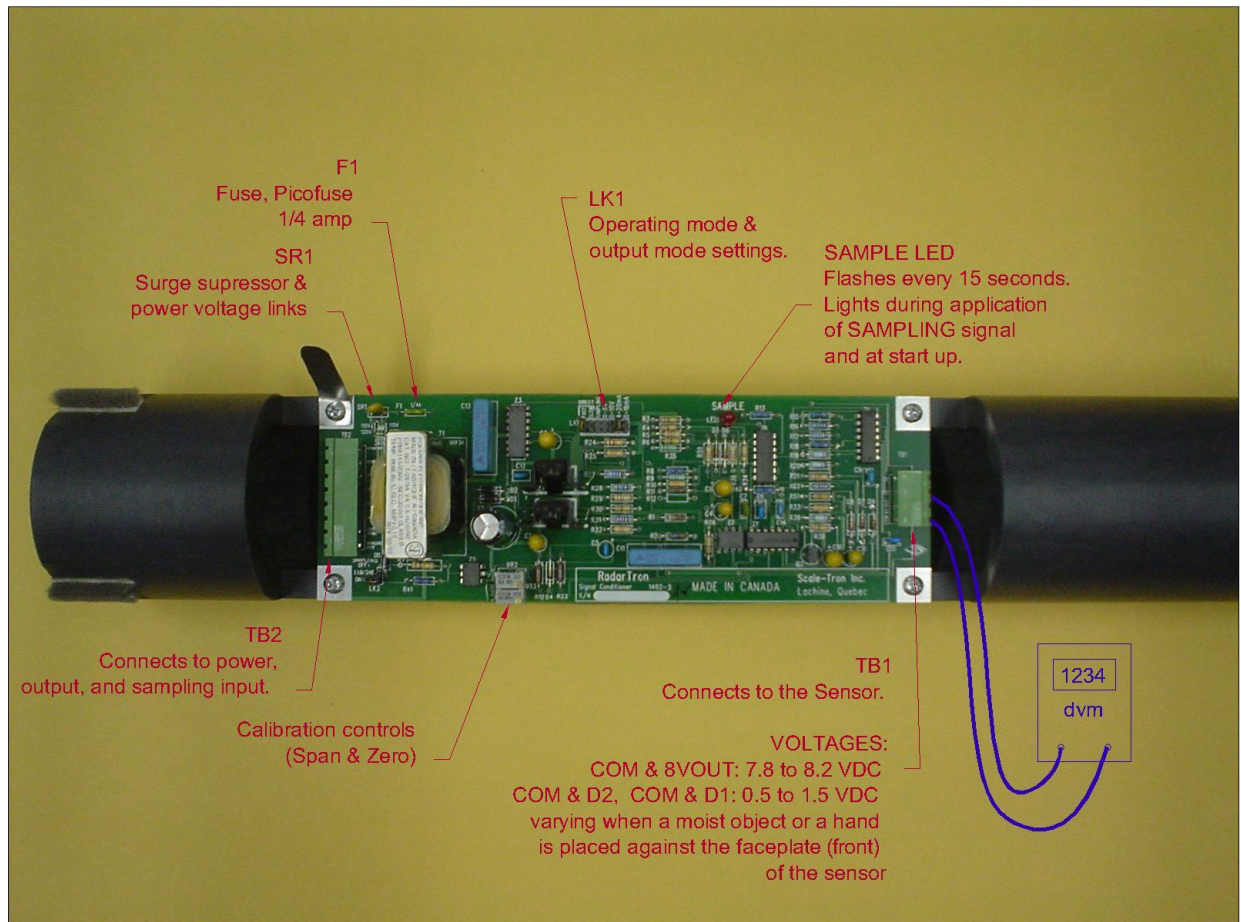

Figure 3, CALIBRATION GRAPH
Before making any corrections, you must collect and compare readings at both low and high moisture. Ideally, collect a set of readings varying from 2% moisture to 8 or 10%. Your calibration will only be correct within the range of moisture over which you take readings. We have made the adjustment procedure as simple as possible by providing both a graph and computer analysis of your comparative readings, together with recommended adjustment procedure. When you have obtained a set of 10 good comparison measurements, plot them on the graph provided (see Figures 3 and 4) or insert the calibration disk into your computer (IBM compatible) and follow the instructions. Alternatively, fax them to Scale-Tron at (514) 639 6945. We will return a table showing the adjustments to make; this should result in accurate readings after only one adjustment if carried out correctly.
Locate the blank graph (see Figure 3) and plot the readings from the oven dry tests.